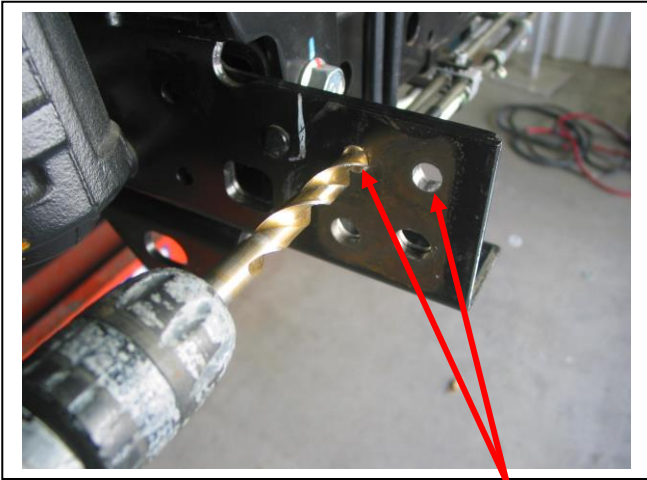

Figure 3 – Drivers side shown Drill two 13mm holes top of chassis,
3. Drill out two 11mm hole in top front of chassis rail to 13mm. **Treat all exposed metal with a rust inhibitor. See figure 3.**